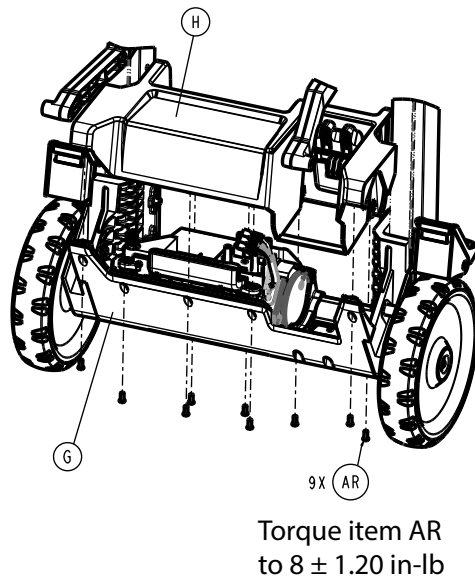
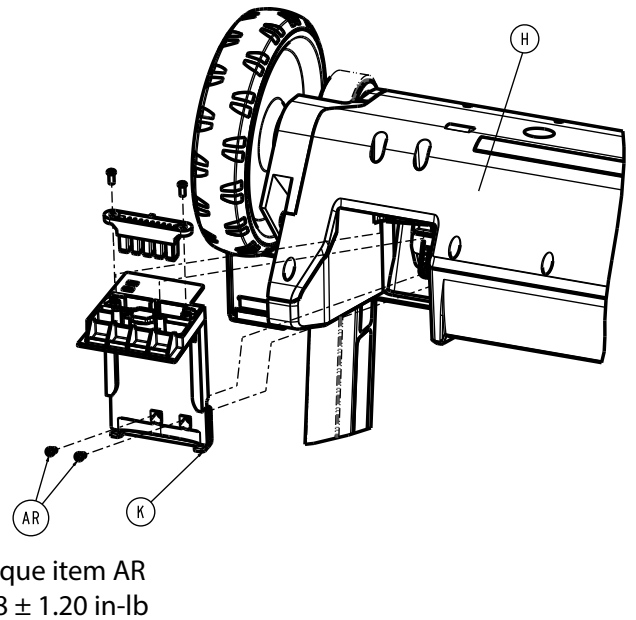

Figure 4 –
Figure 5 –
5. Using a T15 Torx driver, remove the nine pan head thread forming screws (AR) that secure the power box upper cover (H) to the lower cover (G) (Figure 4). Save the screws.
**Note** - Using a torque wrench, torque the pan head thread forming screws (AR) to  $8 \pm 1.20$  in-lb when you reinstall.
6. Using a T15 Torx driver, remove the two pan head thread forming screws (AR) that secure the battery housing assembly (K) to the power box upper cover (H) (Figure 5). Save the battery housing assembly and the screws.